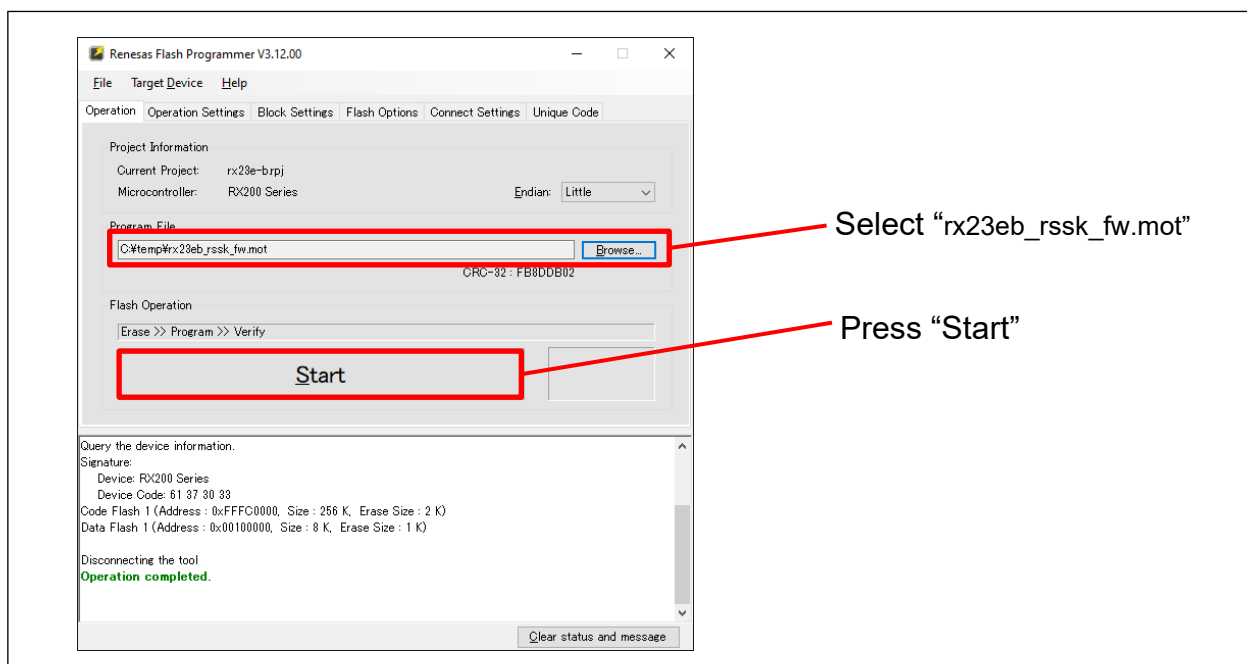

Figure 3-5 Renesas Flash Programmer Writing Operation
4. Select "rx23eb_rssk_fw.mot" referring to Figure 3-5, press the reset switch on the RSSKRX23E-B board, then press "Start".